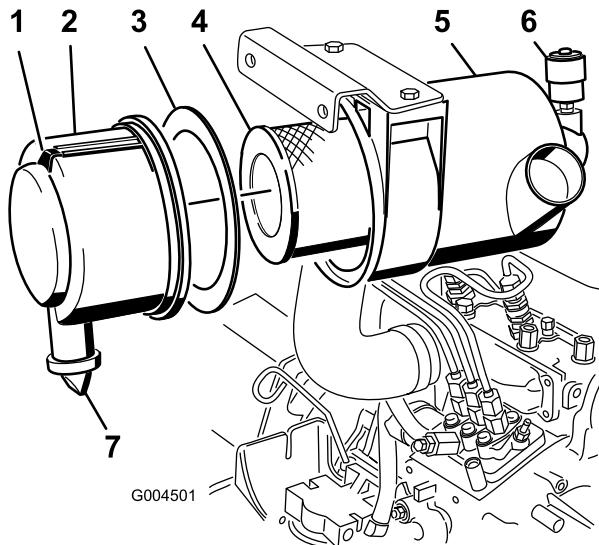

Figure 40
- Service the air cleaner filter when the air cleaner indicator (Figure 40) shows red or every 400 hours (more frequently in extremely dusty or dirty conditions). Do not over service the air filter.
- Pull the latch outward and rotate the air cleaner cover counter-clockwise (Figure 40).
- Remove the cover from the air cleaner body (Figure 40).
- Remove and replace the primary filter (Figure 40).
- Ensure that the foam gasket is in place in the cover and that it is not torn or damaged (Figure 40). If it is damaged, replace it.
- Remove the rubber outlet valve from the cover (Figure 40).
- Reset the indicator (Figure 40) if showing red.